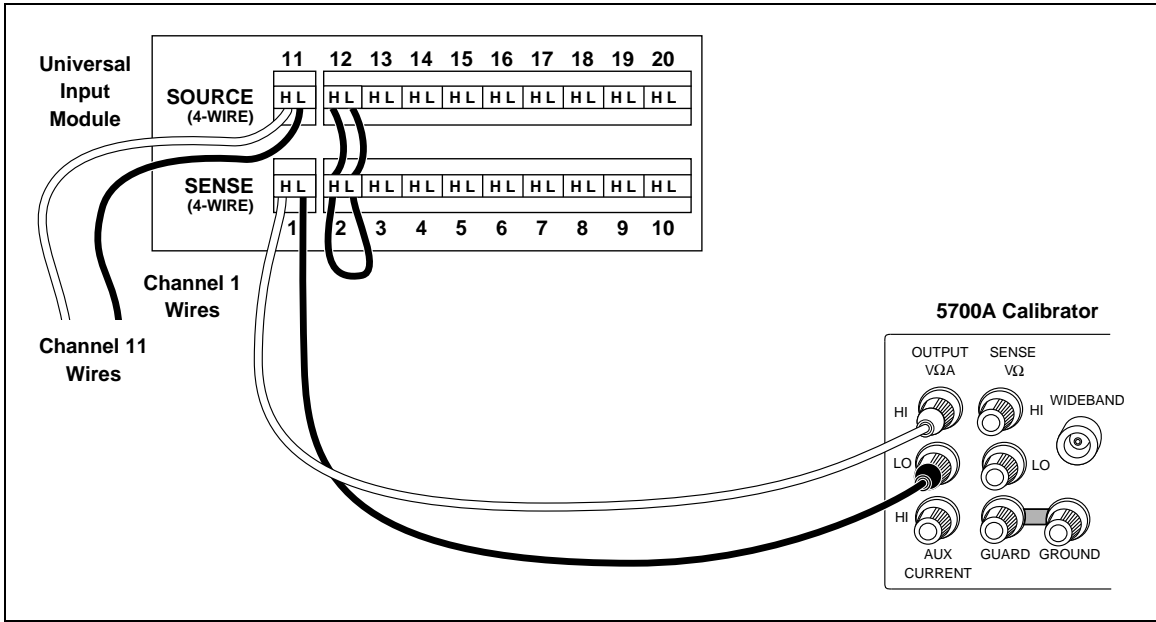

Figure 4-7. Two-Wire Calibration Connection
There are two connection methods used between the leads from the instrument Universal Input Module and the 5700A Calibrator. The volts dc, volts ac, and resistance functions use the two-wire connection shown in Figure 4-7. The resistance function uses the four-wire connection shown in Figure 4-8.
2. Connect the 5700A Calibrator as shown in Figure 4-7 and source an output of 0.09V dc. Click the Perform Calibration Step button to calibrate the selected value. After the calibration step completes, the next calibration appears in the Actual box.
2. Connect the 5700A Calibrator as shown in Figure 4-7 and source an output of 0.03V ac at a frequency of 1 kHz. Click the Perform Calibration Step button to calibrate the selected value. After the calibration step completes, the next calibration appears in the Actual box.
2. Connect the 5700A Calibrator as shown in Figure 4-7 and source an output of 3V ac at 10 kHz. Click the Perform Calibration Step button. There is only a single value.
2. Connect the instrument and 5700A Calibrator as shown in Figure 4-7.